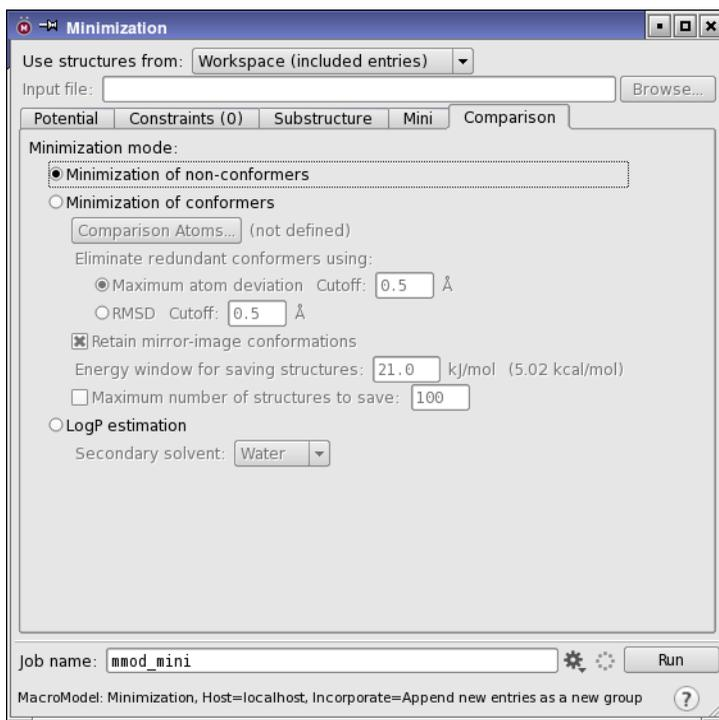

Figure 3.6. The Minimization panel showing the Comparison tab.
8. Choose Project Table (selected entries) from the Use structures from option menu (see Figure 3.6).